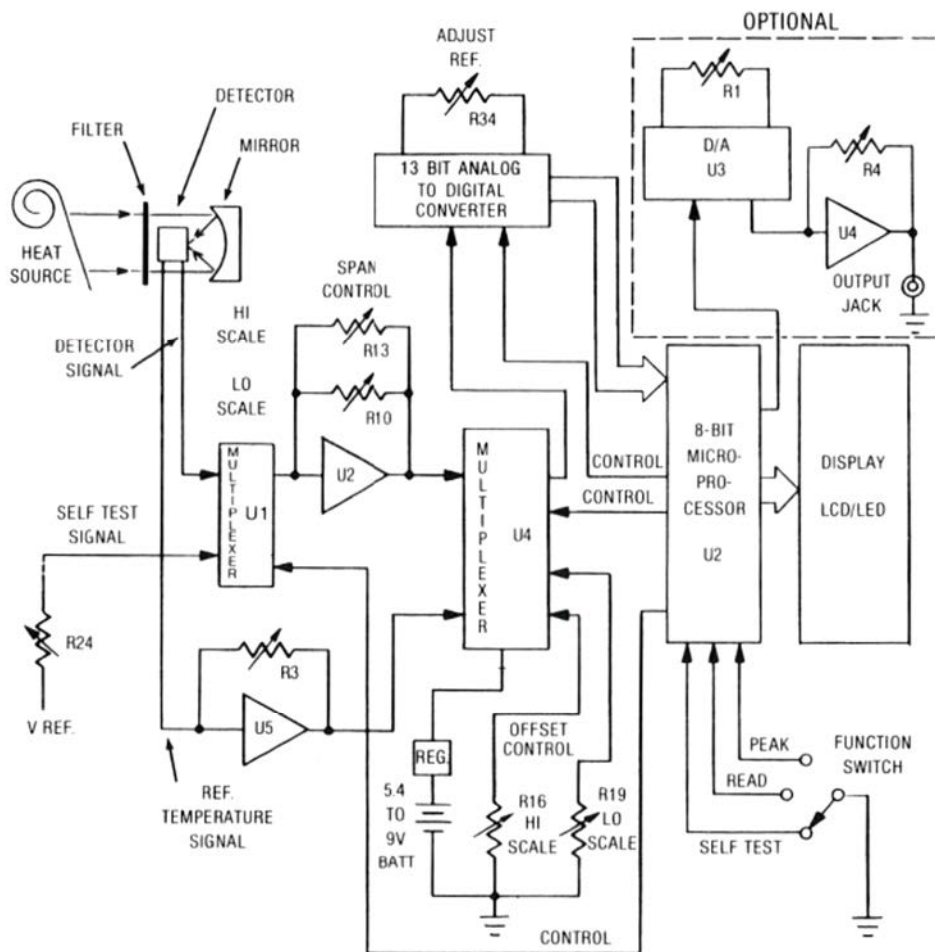

Figure 4
5.2 Theory of Operation (Refer to Figure 4)